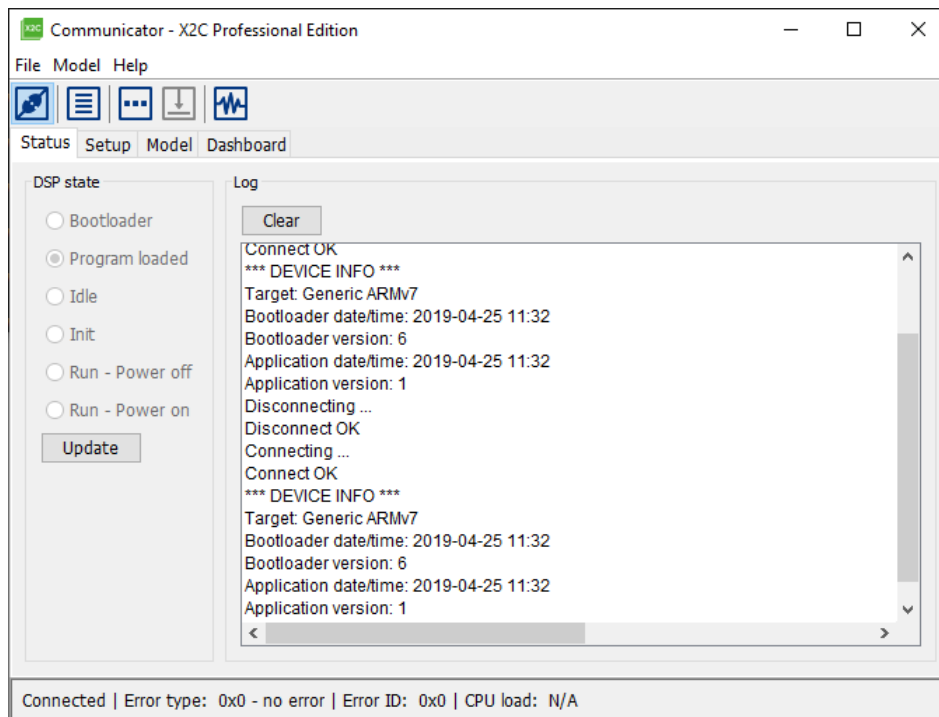

Figure 10: *Communicator* status
- In the **Status** tab there are two main areas as seen in Figure 10. In *DSP state* the current status of the connected target is shown. The following states are possible: